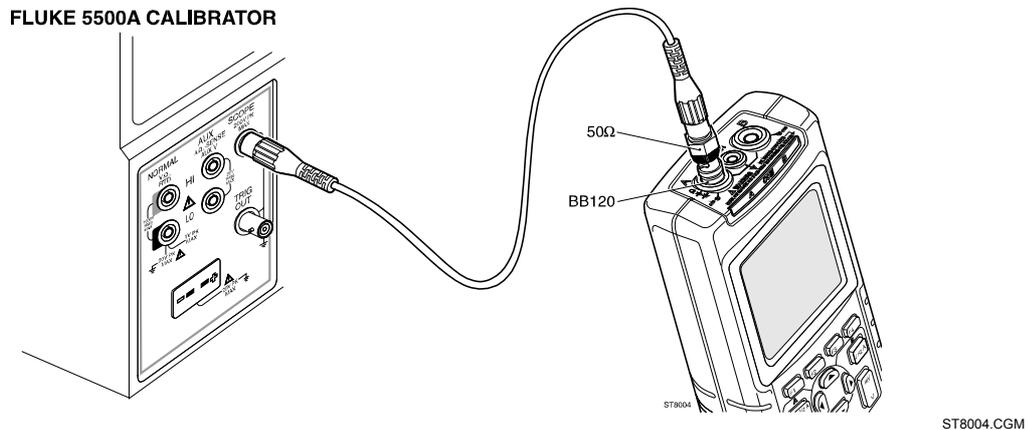

Figure 4-3. Test Tool Input A to 5500A Scope Output 50Ω
1. Connect the test tool to the 5500A as shown in Figure 4-3.
1. Connect the test tool to the 5500A as for the previous test (see Figure 4-3).